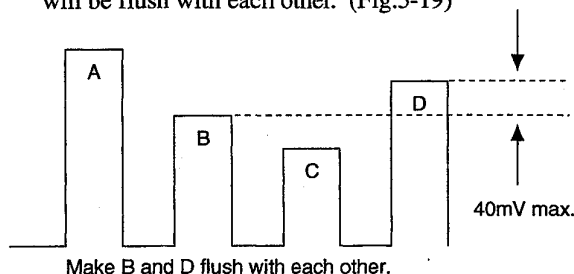

Fig. 5-19
- 2) Connect the probe of an oscilloscope to IC404 ②0PIN or TP402.
- 4) Adjust **CHROMA PAL NOR** so that the peaks of waveforms will be flush with each other. (Fig.5-19)